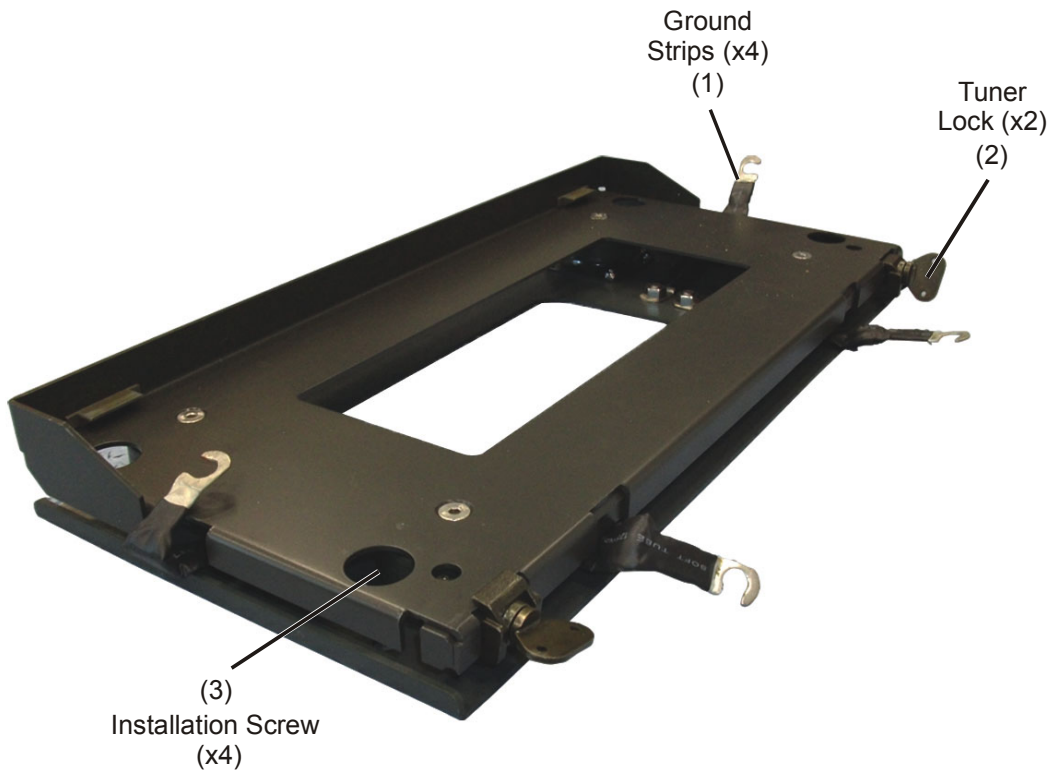

Figure 1-3. Mounting Tray External View
1.2.3.2 Mounting Tray (See Figure 1-3 and Table 1-2)